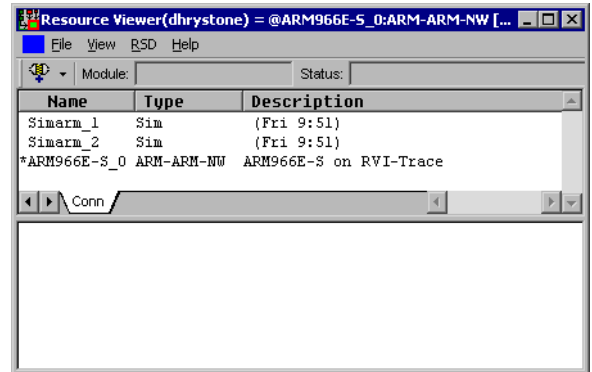

Figure 5-8 Multiple connections in the Resource Viewer window
2. If not already visible, click on the **Conn** tab to display the connections tab, shown in Figure 5-8 on page 5-19.